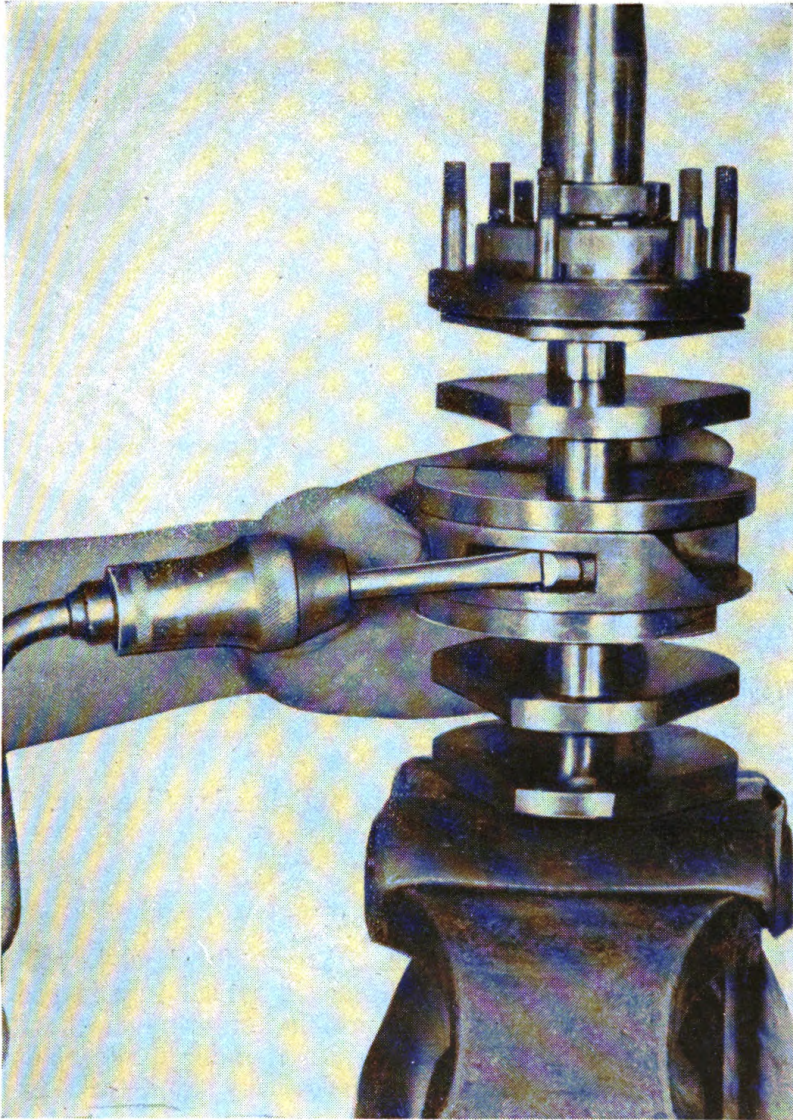

Figure 59. To remove center bearing, remove both screws holding halves of bearing together.
(20) To remove center bearing from crankshaft, remove two screws that hold the halves together. (See fig. 59.) Do not lose any of the 34 rollers of this bearing or split-bronze seal between them.
(21) To remove upper ball bearing, loosen lockwasher; then loosen left-hand locknut by driving with a flat-headed punch and hammer.
(22) Remove lower ball bearing by tapping crankshaft with a rawhide hammer.
(23) The upper driveshaft housing does not require much attention. If parts become broken or damaged they must be replaced or repaired. To remove driveshaft housing, remove set screw from side of lower drive housing. Next remove the two lock bolts. The lower one goes through part of drive-housing tube, and has to come all the way out. After both bolts are removed drive tube can be pulled out.
(24) To remove gear housing, remove nuts from studs located above water-pump inclosure.